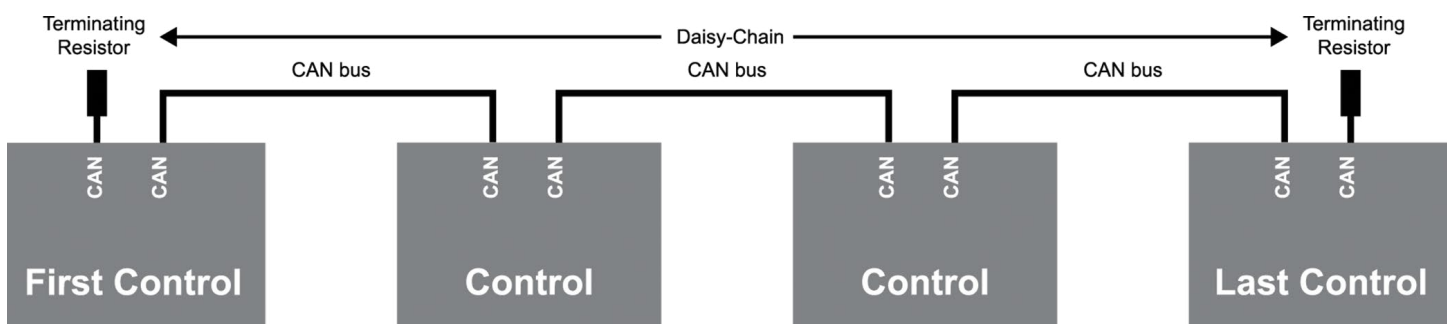

Fig.3
3. Determine if the existing OneControl Cellular Gateway box is located in the middle (Control) or at the end (First/Last Control) of the CAN bus daisy chain (Fig.3).
NOTE: A typical CAN bus wiring (Fig.3) uses a daisy chain system, with each controller connected to the previous controller. In this configuration, each electronic control has two CAN connectors—daisy in/daisy out. The beginning and end of the daisy chain are terminated with a special terminating resistor. When swapping out a CAN bus system component, note the original location and configuration of the terminating resistor or CAN bus wires.
A. If the controller is at the beginning or end of the chain (Fig.3), disconnect the CAN bus cable and terminating resistor (Fig.4B).
B. If the controller is in the middle of the chain (Fig.3), disconnect the two CAN bus cables from the controller (Fig.4C).
5. Depending on the CAN bus system location of the previous controller, daisy chain the CAN to Cellular Gateway into the unit's CAN bus system (Fig.3).
- A. If the Cellular Gateway will be in the middle of the CAN bus daisy chain (Fig.3), reconnect the CAN bus cables (Fig.6).